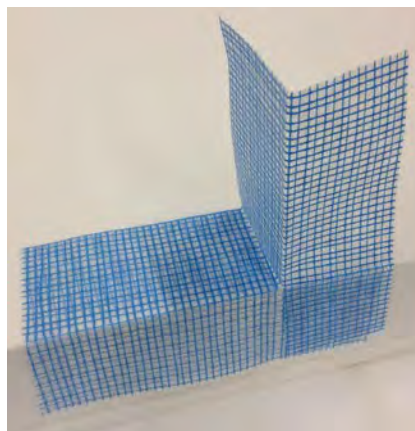

Figure 5
- 5a. As an alternative, preformed Dryvit AquaFlash Corners can be applied at each corner of the opening to reduce the number of field cuts required. The AquaFlash Corners are installed in the same manner as the AquaFlash Mesh. – Figure 5